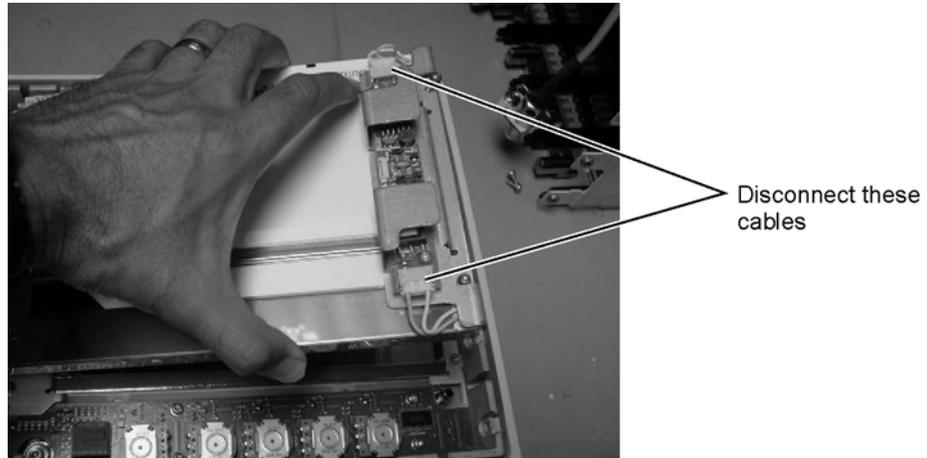

Figure 7-17. Disconnecting the Cables from the A3 Backlight Inverter
- 2 Disconnect the cables from the A3 Backlight Inverter shown in Figure 7-17.